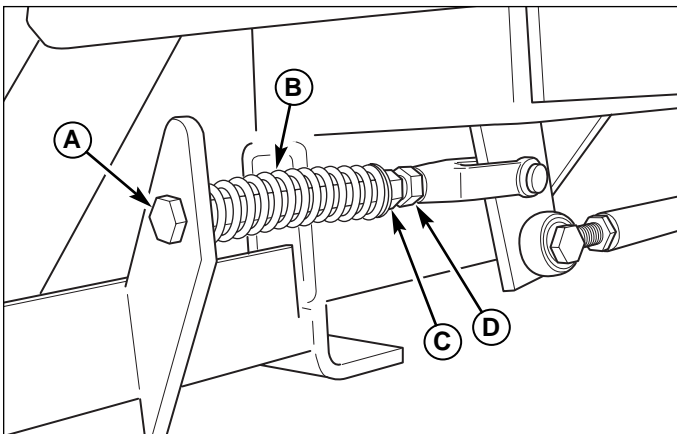

Figure 32. Neutral Spring Return Adjustment
3. Move the ground speed control levers towards the neutral position. If the levers do not align with the notches in the neutral lock plate, it is necessary to adjust the reverse return bolts (A, Figure 32).
1. Loosen the jam nut (D, Figure 32) locked against the clevis.
2. Turn the reverse return bolt (A) clockwise to adjust handle rearward, counter-clockwise to adjust handle forward.
After adjusting the neutral position, lock the levers in the neutral position and measure the reverse return spring (B, Figure 32) length. This should be 2-3/8" (6,03 cm) long. If not, hold the reverse return bolt (A) with a wrench while turning the spring position nut (C) until the measurement is achieved.